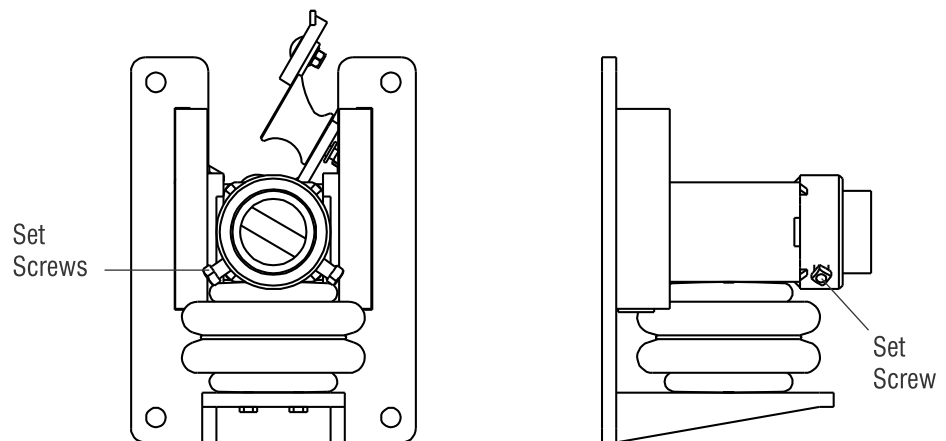

Figure 5. Tighten Set Screws
- With the Blade Tips centered on the belt, firmly tighten the set screws (to approximately 75 ft-lbs) on the Slide Blocks to affix the translation of the Mounting Tube. See *Figure 5*.